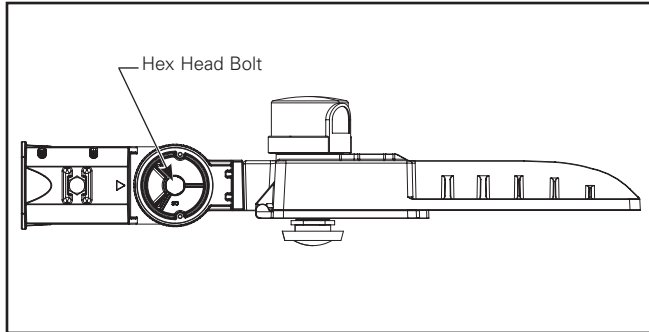

Figure 4.
- Adjust slipfitter to the desired angle by loosening the center hex bolt enough to rotate and adjust. Retighten the center hex bolt to 120 in-lbs to secure. (Figure 4.)